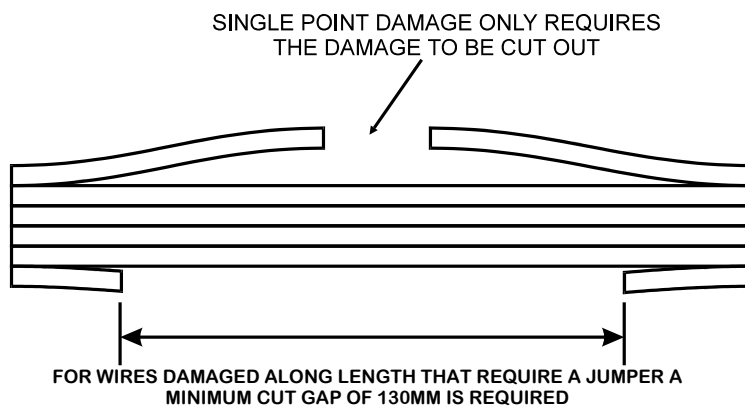

Figure 6-10 Removal of the Damaged Section
34. If a wire is damaged along its entire length, as shown at the bottom of Figure 6-10, the damaged segment must be cut out and replaced with a jumper wire installed using two splices
36. Figure 6-10 illustrates, that at least 130 mm of the damaged wire must be removed to allow room for splicing.